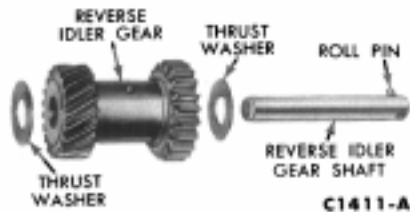

FIG. 15—Reverse Idler Shaft and Gear Disassembled
20. Driving from the front of the case, remove the reverse idler gear shaft. Then, lift the reverse idler gear and two thrust washers (Fig. 15) from the case.